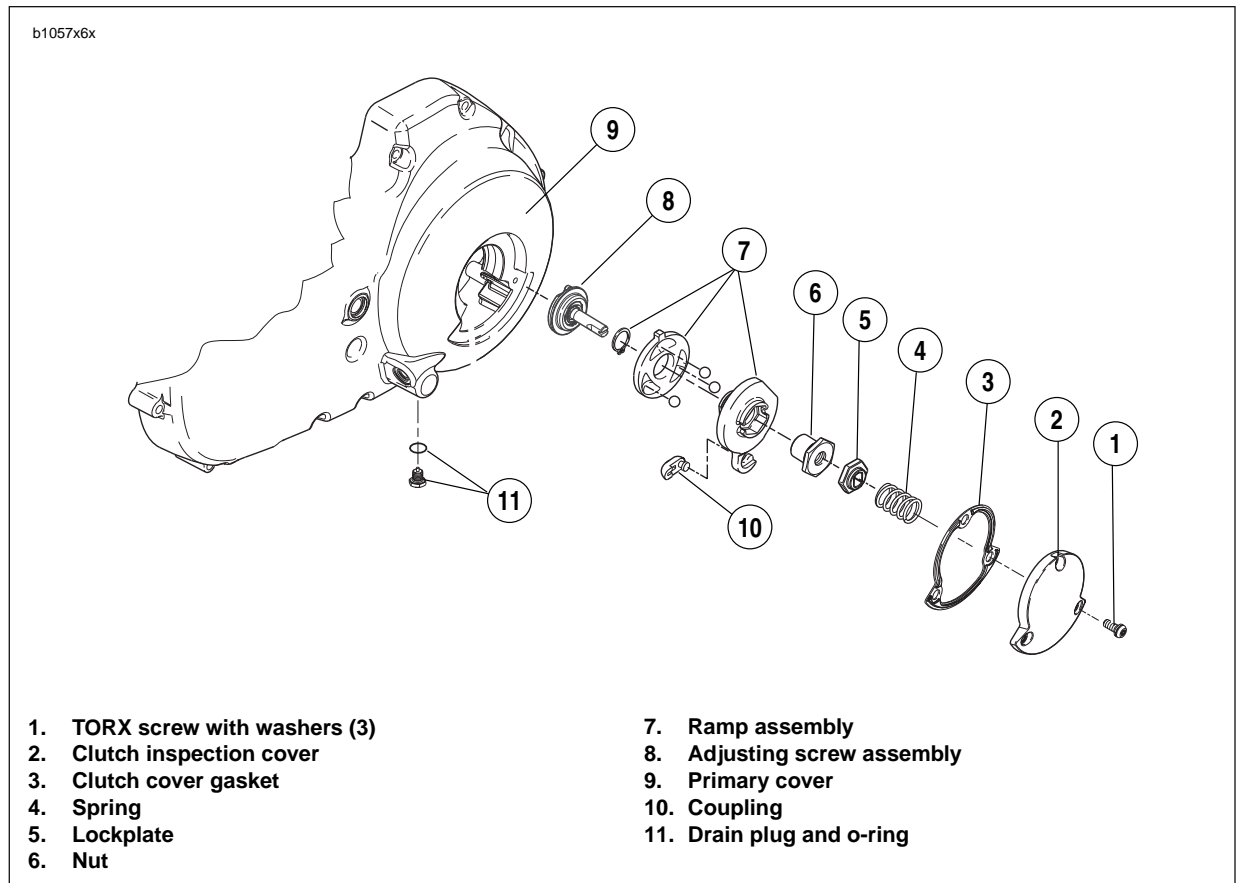

Figure 6-9. Clutch Release Mechanism
4. See Figure 6-9. Remove three TORX screws with washers and clutch inspection cover.
5. Slide spring (4) with attached screw lockplate (5) from flats of adjusting screw.
2. See Figure 6-9. Inspect three balls of release mechanism and ball socket surfaces of inner and outer ramps for wear, pitting, surface breakdown and other damage. Replace parts as necessary.